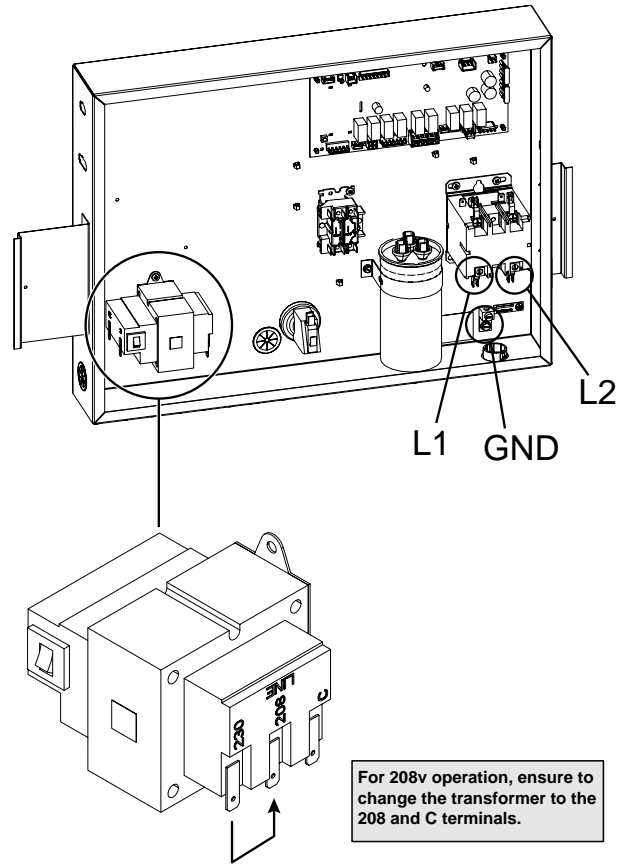

Figure 6. Terminals L1 and L2
- Connect electrical Line 1 (L1) and Line 2 (L2) to the terminals indicated in Figure 6 for proper wiring. Electrical installation should be performed by a licensed electrician only.